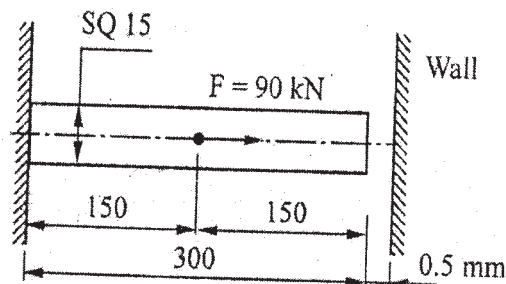

Fig. 3
- b) For the loading system as shown in Fig.3, determine the nodal displacements. Assume modulus of elasticity as $80 \times 10^3 \text{ N/mm}^2$ [8]